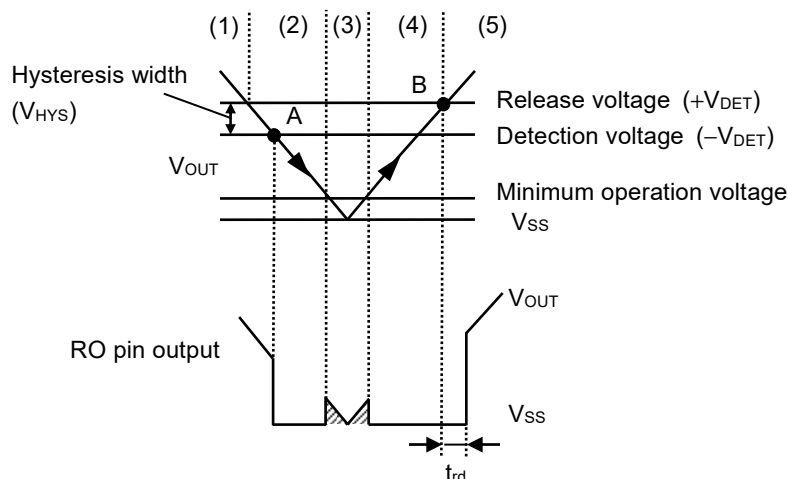

Figure 34 Timing Chart of Detector Block
- (1) When the output voltage (V_{OUT}) of the regulator is release voltage ($+V_{DET}$) of the detector or higher, the Nch transistor (N1 and N2) are turned off and "H" is output to the RO pin. Since the Pch transistor (P1) is turned on, the input voltage to the comparator (C1) is $\frac{R_B \cdot V_{OUT}}{R_A + R_B}$.
- (2) Even if V_{OUT} decreases to $+V_{DET}$ or lower, "H" is output to the RO pin when V_{OUT} is the detection voltage ($-V_{DET}$) or higher. When V_{OUT} decreases to $-V_{DET}$ (point A in **Figure 34**) or lower, N1 which is controlled by C1 is turned on, and C_{DLY} is discharged. At the same time, N2, which is controlled by the delay circuit, is turned on, and "L" is output to the RO pin. At this time, P1 is turned off, and the input voltage to C1 is $\frac{R_B \cdot V_{OUT}}{R_A + R_B + R_C}$.
- (3) If V_{OUT} further decreases to the IC's minimum operation voltage or lower, the RO pin output becomes uncertain. If the RO pin is pulled up, "H" is output.
- (4) When V_{OUT} increases to the IC's minimum operation voltage or higher, "L" is output to the RO pin. Moreover, even if V_{OUT} exceeds $-V_{DET}$, the output is "L" when V_{OUT} is lower than $+V_{DET}$.
- (5) When V_{OUT} increases to $+V_{DET}$ (point B in **Figure 34**) or higher, N1 is turned off and C_{DLY} is charged. When V_{DLY} increases to the threshold voltage (1.25 V typ.), N2, which is controlled by a delay circuit, is turned off and "H" is output to the RO pin.